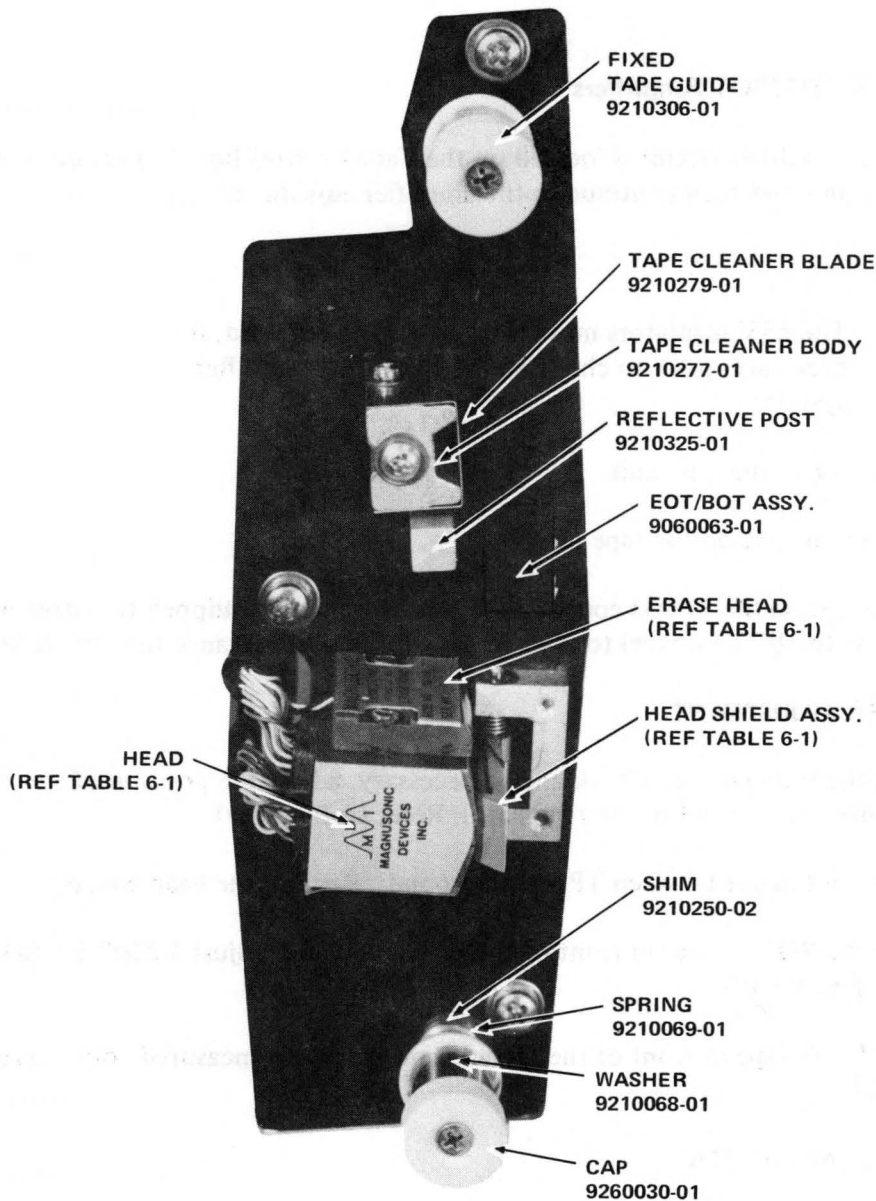

Figure 5-1. Head Assembly
- a. Remove the head covers. Check and, if necessary, adjust the position of the EOT/BOT tape sensor until it is parallel to the tape path. Refer to figure 5-1.
- a. Remove the head covers. Check the position of the EOT/BOT tape sensor and, if necessary, adjust the tape sensor until it is parallel to the tape path. Refer to figure 5-1.